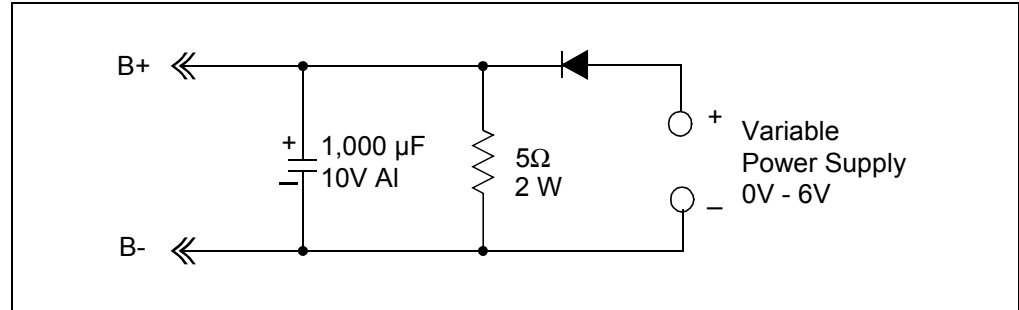

FIGURE 2-2: Simulated Battery Load.
2. For the MCP73831-2AC board, the charge management controller will only provide 10% of the programmed fast charge current if the battery terminal voltage (V_{BAT}) is less than 2.8V with respect to V_{SS} . Using a purely resistive load will not work for preconditioning and fast charge currents. The best way to evaluate the charge management circuit is to use a single-cell Li-Ion battery pack, or the recommended simulated battery load. Refer to Figure 2-2.